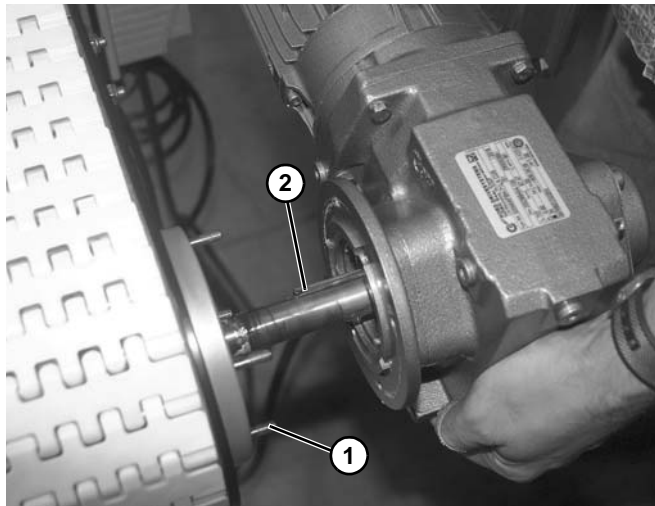

Figure 133
2. Remove drive motor off of motor mounting flange studs (**Figure 133, item 1**), while noting key (**Figure 133, item 2**) on motor drive shaft.